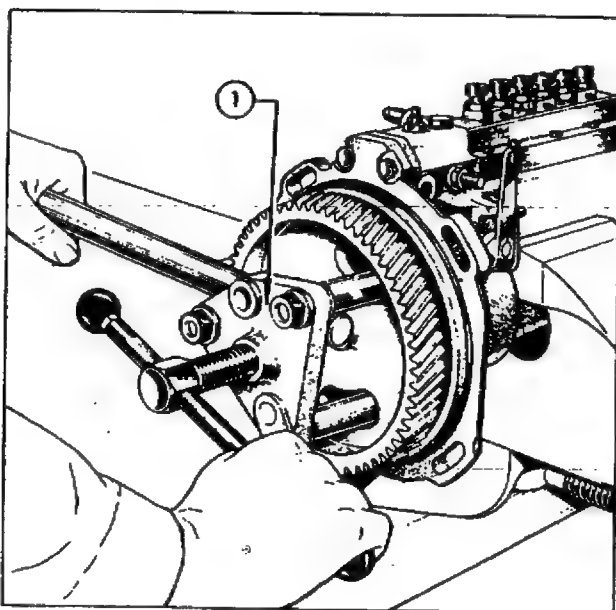

Fig. 18
1. Remove the timing gear. Unscrew the retaining nut, if not already removed, holding the gear with wrench Tool No.C.9078. Pull the gear off the taper, using puller Tool No.C.9081 (see Fig. 18). Extract the key.